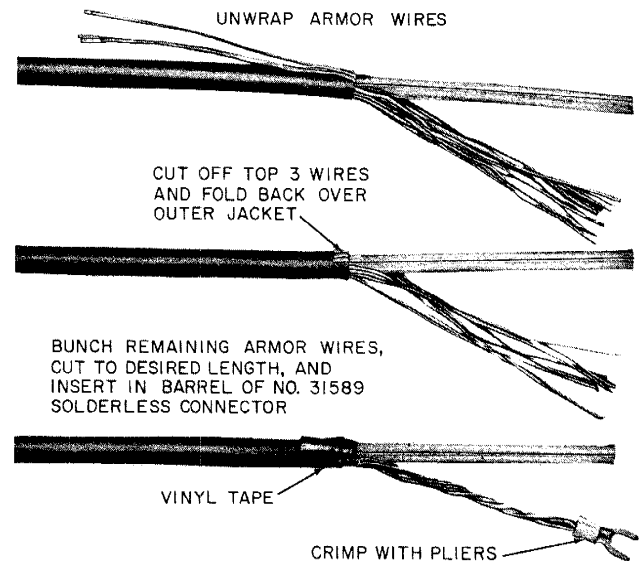

Fig. 4—Armor Wire of D Underground Wire Terminated in No. 31589 Solderless Connector
2.05 Where the buried wire is over 500 feet in length and the armor wire of the D Underground Wire is to be grounded to the cable terminal, terminate the armor wire in a solderless connector as shown in Fig. 4.